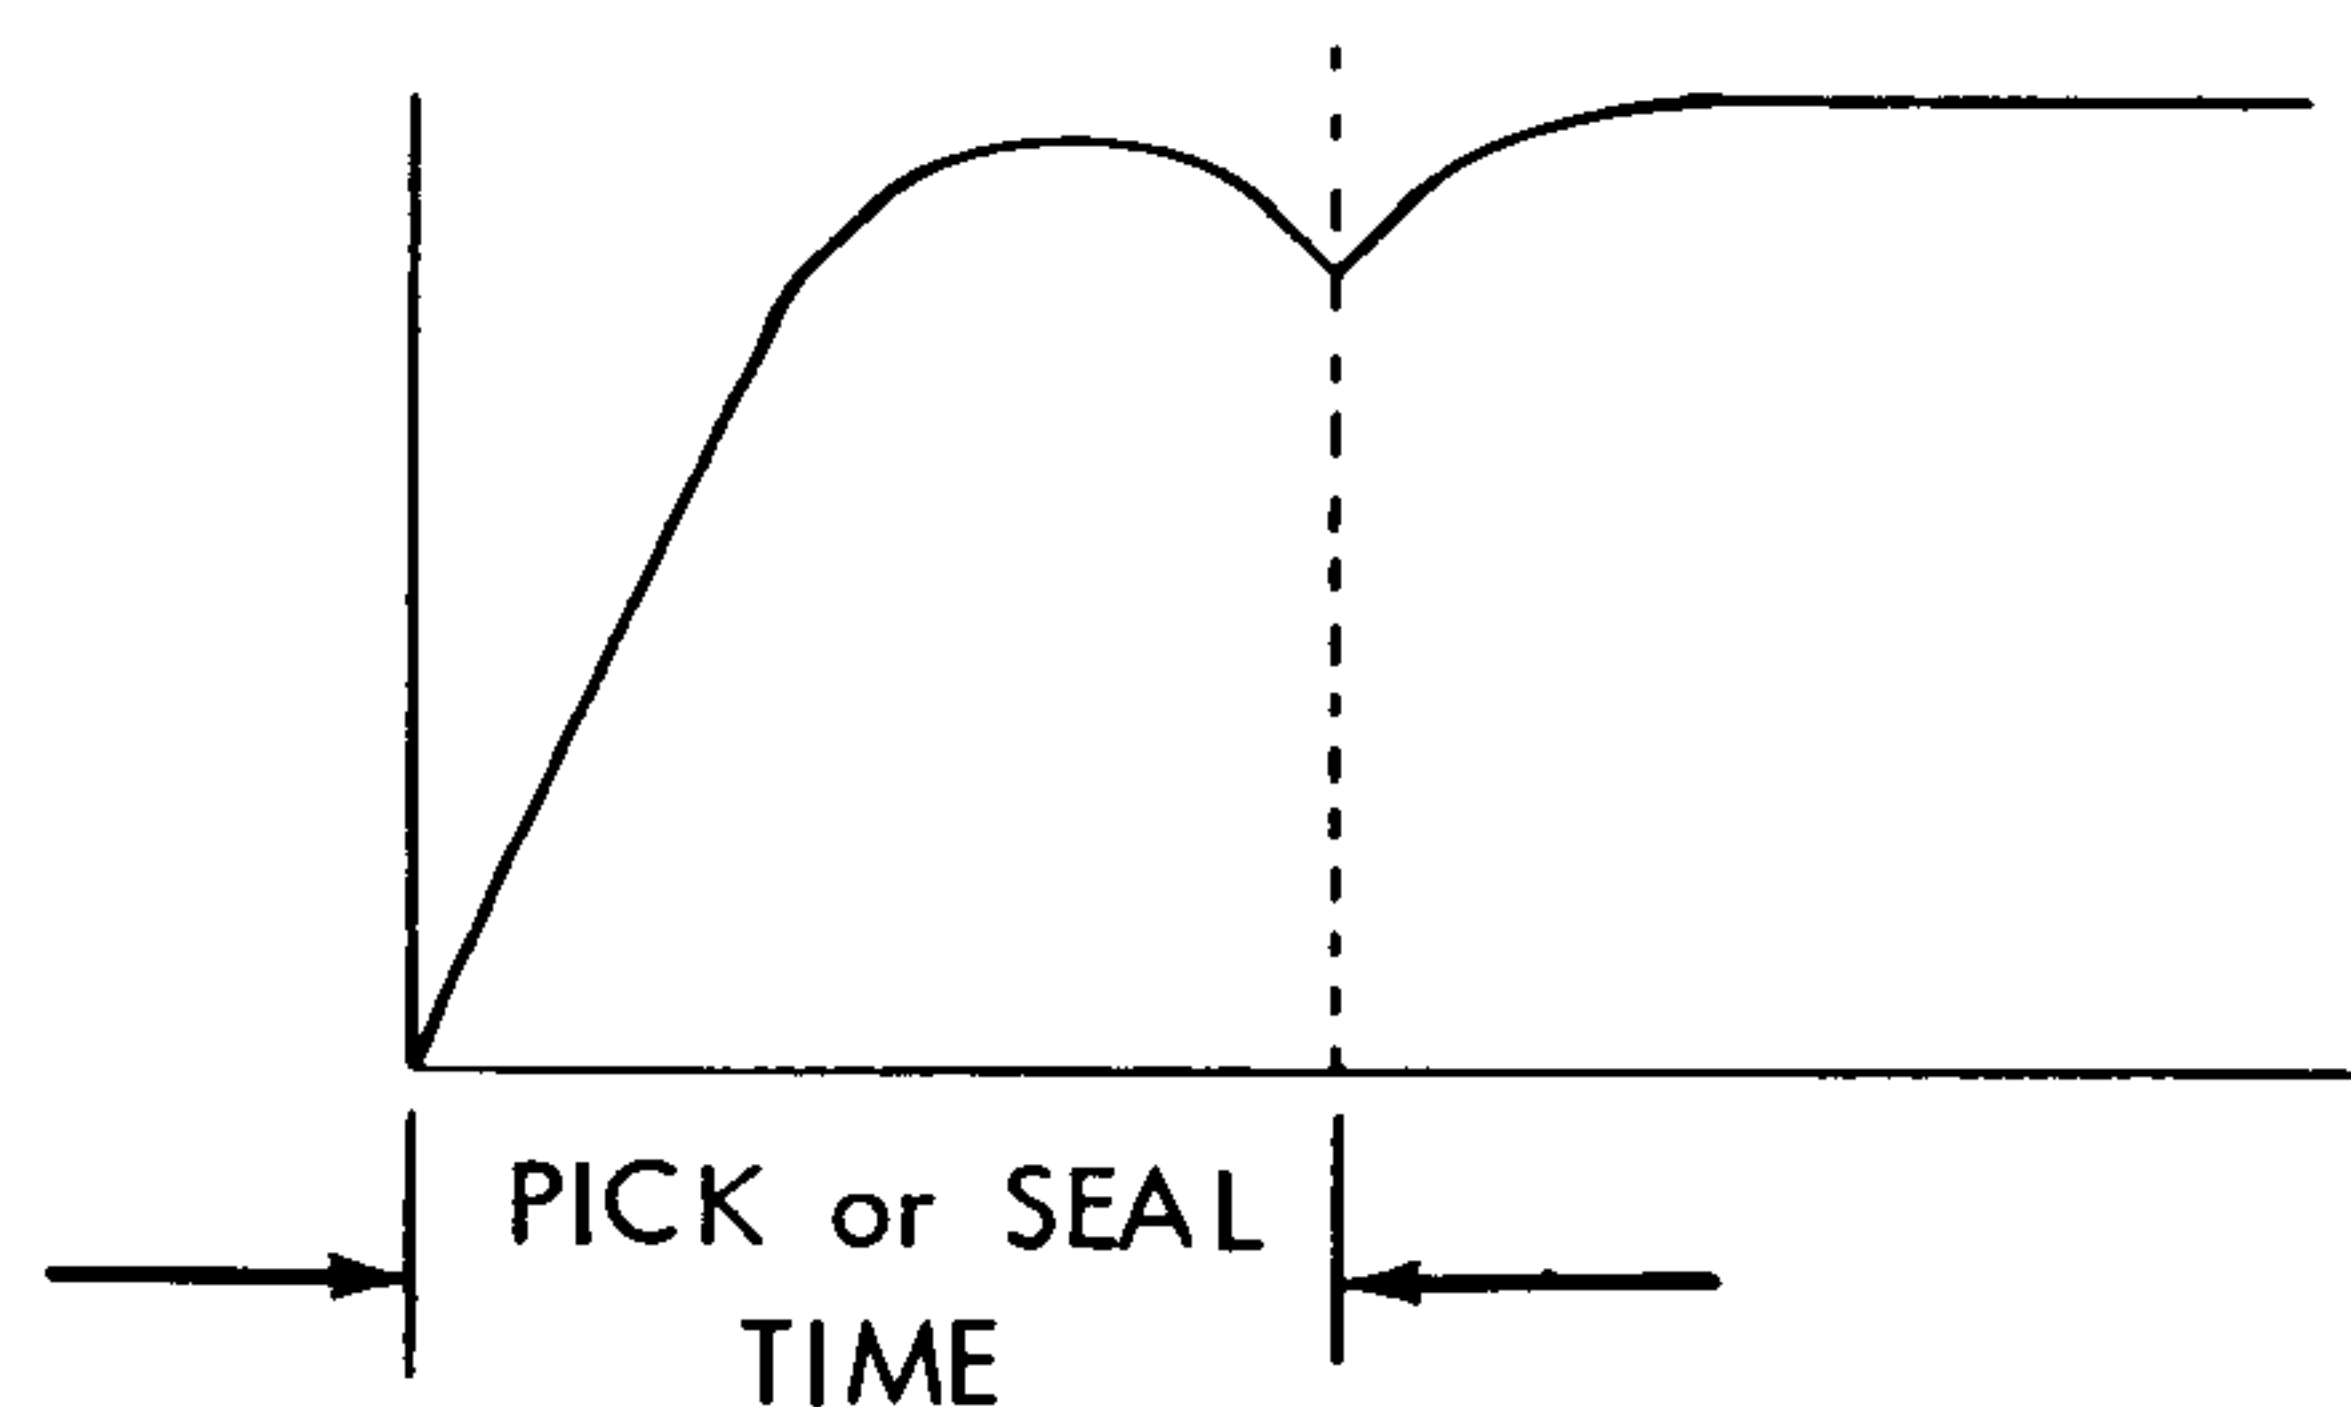

Figure 13. Waveform of Magnet Pick Time
1. Check the pick times of all magnets by observing (on an oscilloscope) the voltage rise across a 10-ohm, 1/2-watt resistor (part 321271) in series with the individual magnet coils, when a 48-volt pulse is applied to the coil. All pick times must be ten milliseconds or less, with the exception of U.C. shift magnet, red ribbon shift magnet and the keyboard-lock solenoid. The U.C. magnet and red ribbon shift magnet armatures must seal within 12 milliseconds maximum and the keyboard lock solenoid must pick in a maximum of 55 milliseconds. See Figure 13 for wave form of magnet pick time.